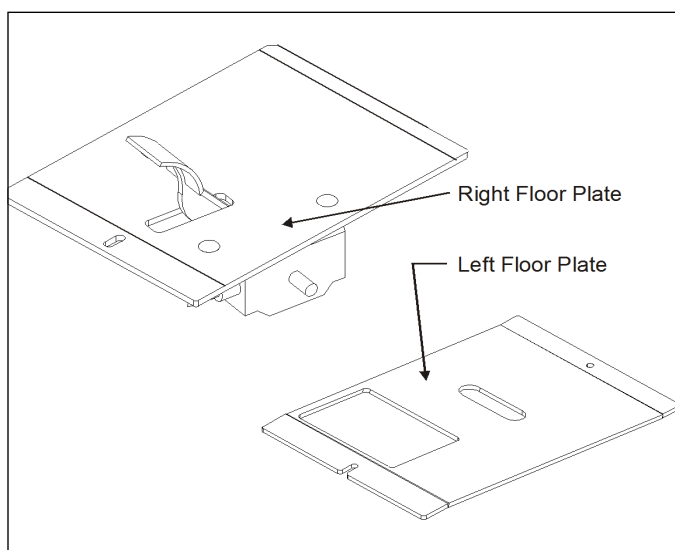

Figure 2-1 Floor Plate Assembly
2. Lift up the rubber floor mat, carefully separating it from the accelerator and brake pedal. **See Figure 2-1.**